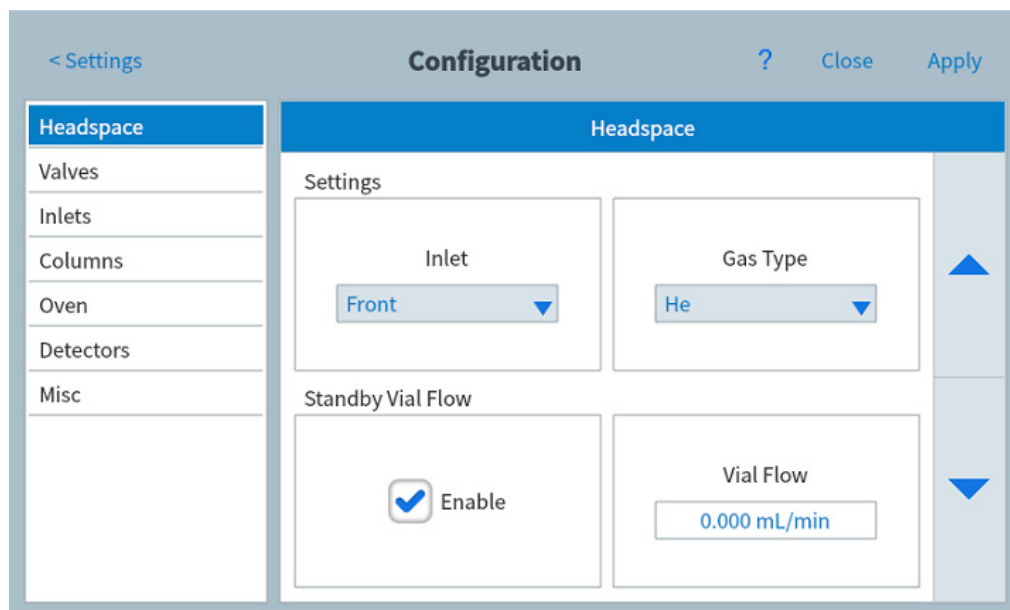

Figure 63 Headspace settings page
- 3 Press the **Headspace** device type from the list on the left side of the page. The properties for the selected device type appear on the right side of the page. See Figure 63.